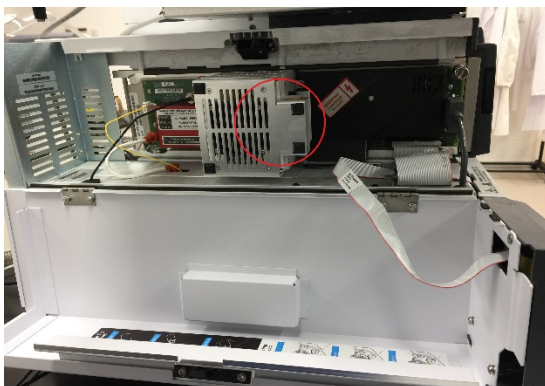
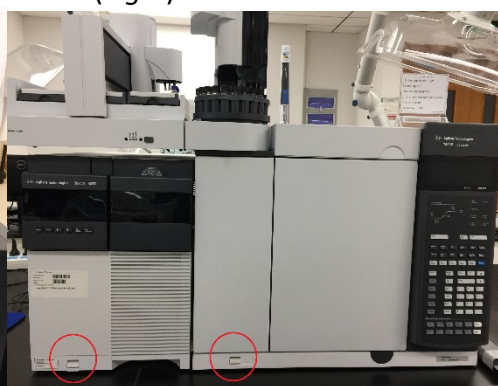

Fig.3
Fig.4
- C. Power on the instrument. Push the panel of the MS to help creating the vacuum (Fig.3). Power on the MS module. It will takes about 20mins for the speed of Turbo pump to reach 85% if the ISSon. Power on the GC module. (Fig.4)